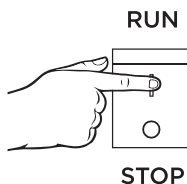

Figure 10 - Engine Control Switch - RUN
5. Push the engine control switch into the RUN position (see Figure 10).
4. Push the engine control switch into the RUN position (see Figure 10).